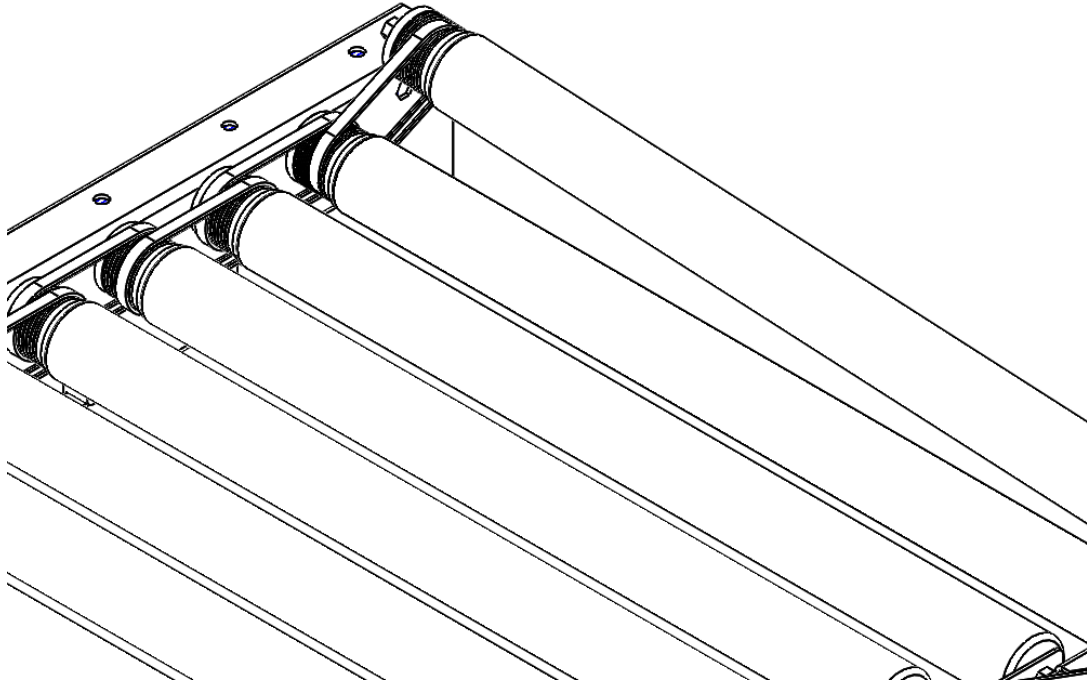

Figure 8: MDR Removal-3
4. Provide upward force on the roller body until the hex is sitting above the side frame. Refer to Figure 8. (A putty knife or other flat surface tool is recommended to be placed between the hex shaft and the inside of the frame. This will help protect the paint on the side frame.)
7. Provide upward force on the roller body until the hex is sitting above the side frame. Refer to Figure 8. (A putty knife or other flat surface tool is recommended to be placed between the hex shaft and the inside of the frame. This will help protect the paint on the side frame.)